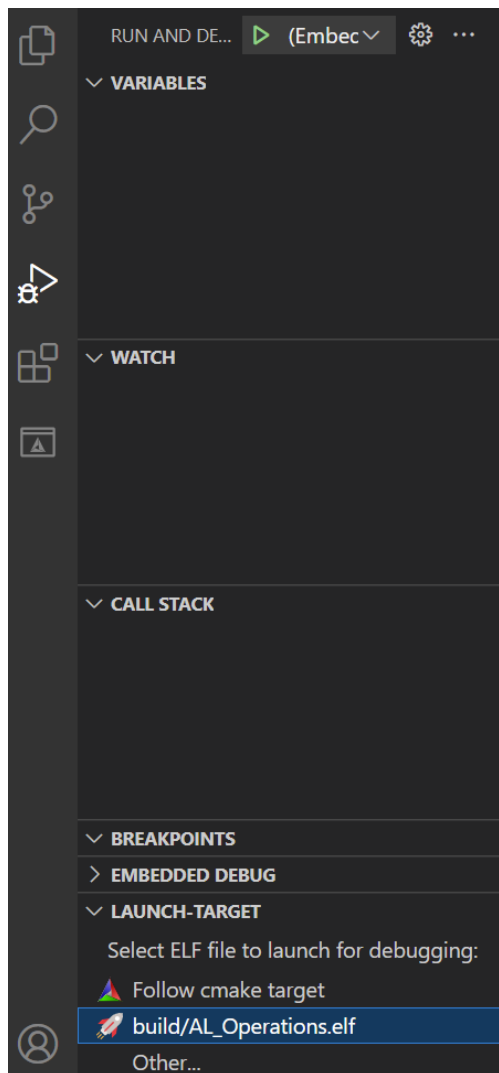

Figure 36. Select the .elf file
- Click on the “Run and Debug” button . Go to the LAUNCH-SELECT section and select the .elf file which you just built (or select “follow cmake target”). See Figure 36.